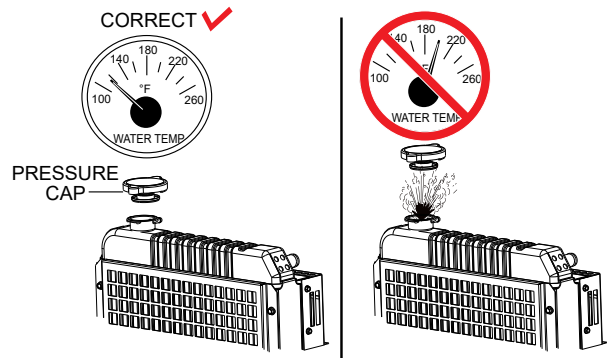

Figure 91. Radiator Pressure Cap Removal
1. Remove the radiator pressure cap (Figure 91) only if the coolant temperature is below 120°F (50°C).